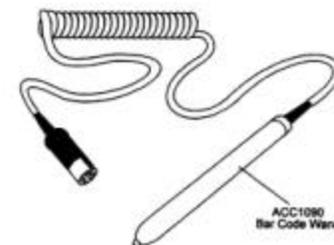
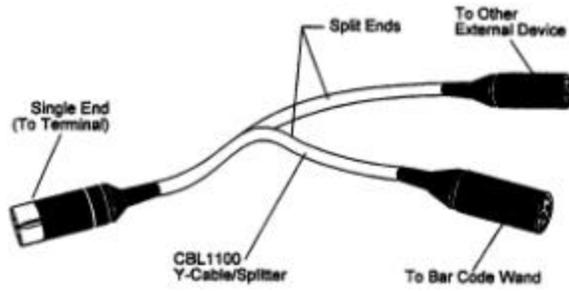

Figure 17: Bar Code Wand
Figure 18: Y-Cable
- (b) If using other external devices (such as the signal control relay) in conjunction with the bar code wand (see Figure 17), connect the male end of the Y-cable shown in Figure 18 to the terminal's wand port, then connect the wand to one of the female ends of the Y-cable.
The Y-cable (splitter) shown in Figure 18 is an optional accessory that allows for connection of both a bar code wand and other external devices such as an external relay box (refer to Chapter 5). The single end of the cable is plugged into the terminal. The wand is connected to one of the split ends and another device to the other.